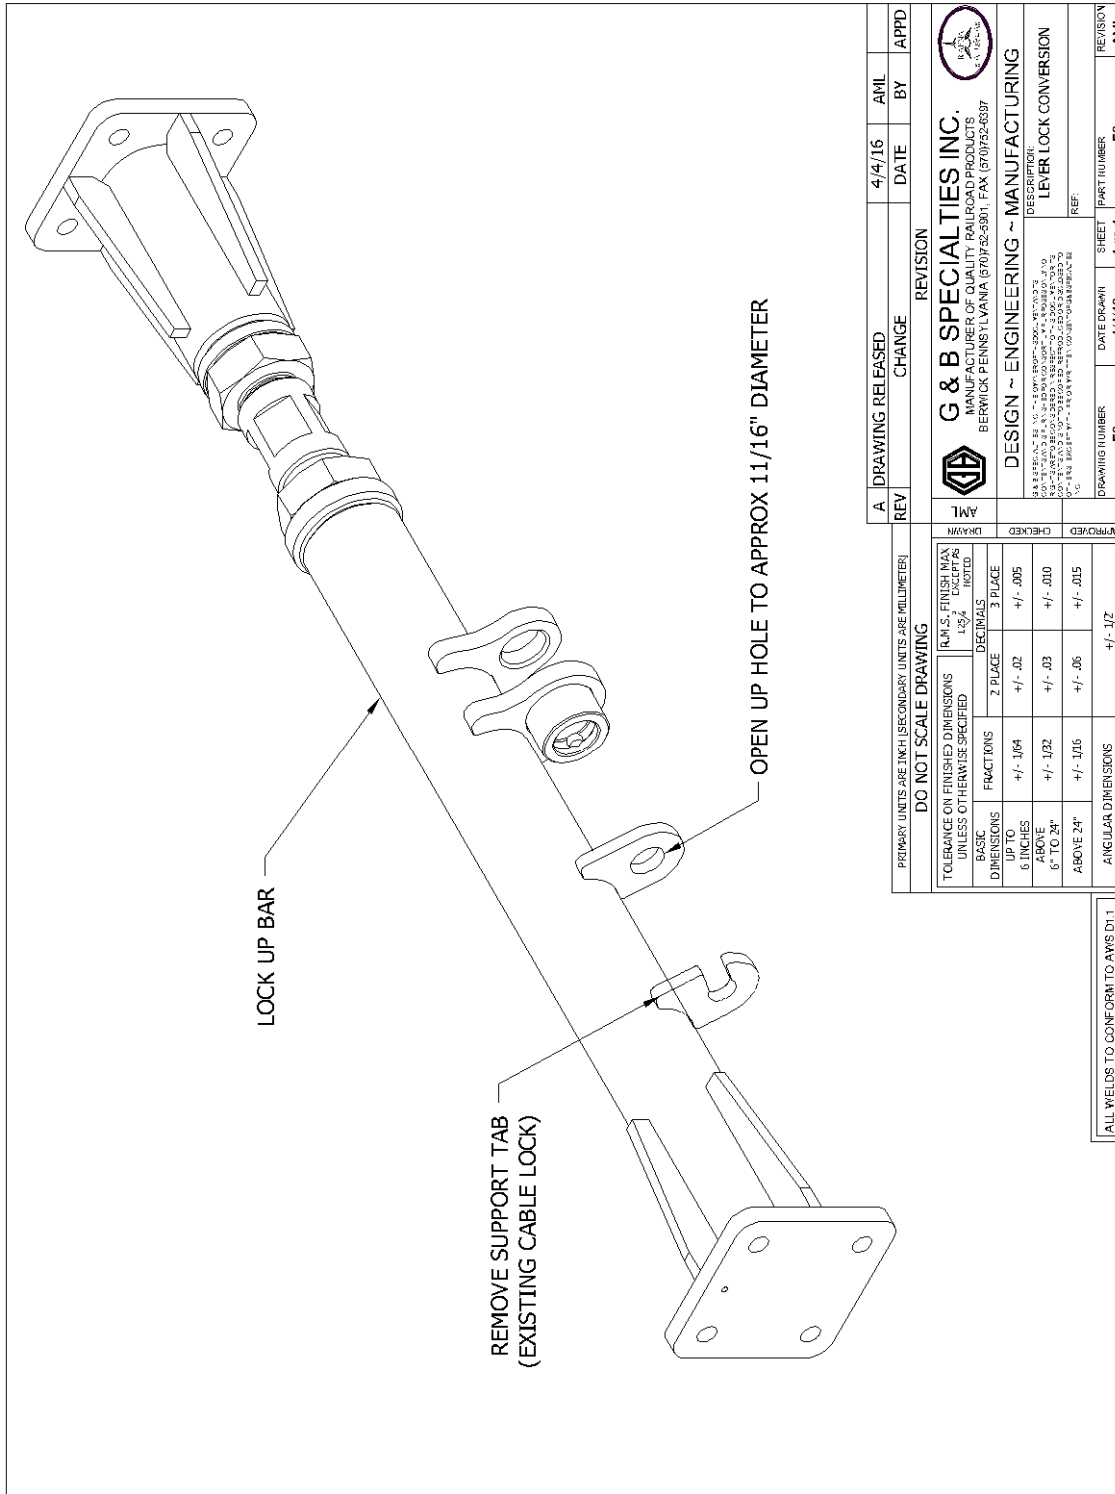

Figure 2
5. Drill or grind the existing hole in the guide tab to approx 11/16" diameter (Figure 2)
6. If converting from cable lock, it will be necessary to remove the cable support tab from the lock bar as shown (Figure 2)